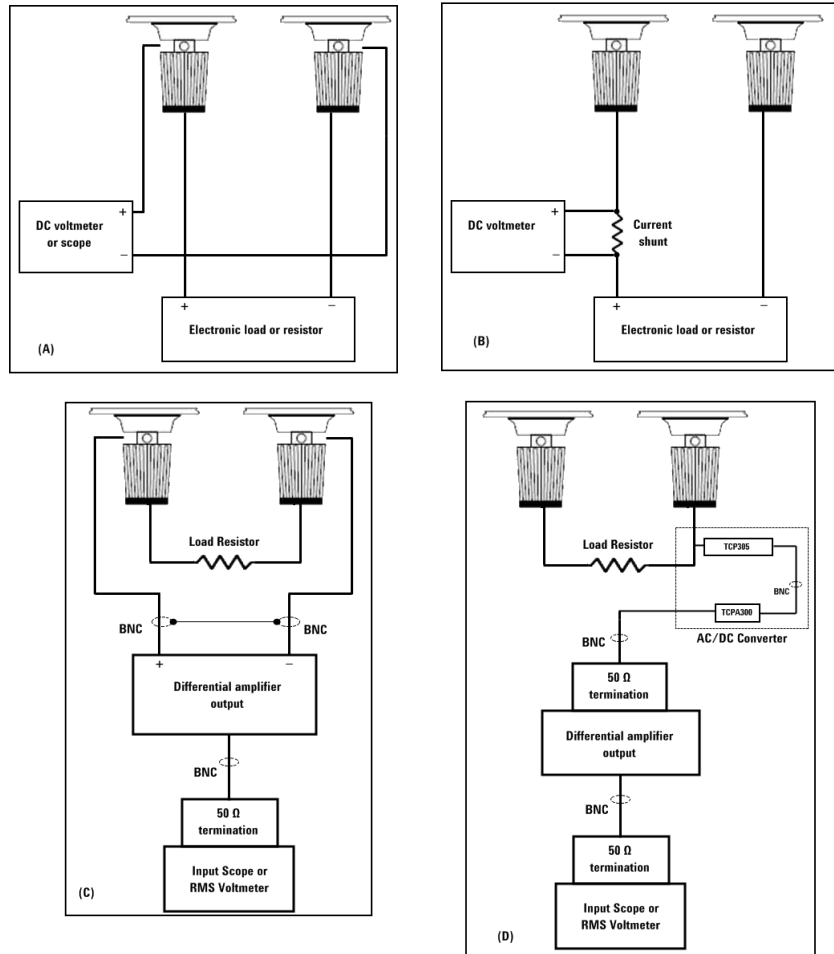

Figure 5-7 Test Setups
- 1 Power off the power supply and connect a DMM between the (+) and (-) terminals of the output to be tested. Remove the electronic load or resistor block as shown in Figure 5-7 \(A\), to operate as an open circuit.
- 1 Power off the power supply and connect a DMM between the (+) and (-) terminals of the output as shown in Figure 5-7\(A\).
- 1 Power-off the power supply and connect a DMM between the (+) and (-) terminals of the output to be tested as shown in Figure 5-7\(A\).
- 1 Power off the power supply and connect the output to be tested as shown in Figure 5-7\(C\) to a differential amplifier and load resistor (10  $\Omega$  for U8001A and 6  $\Omega$  for U8002A)
- 1 Power off the power supply and connect the output to be tested as shown in Figure 5-7\(A\) with an oscilloscope. Operate the electronic load in constant current mode.